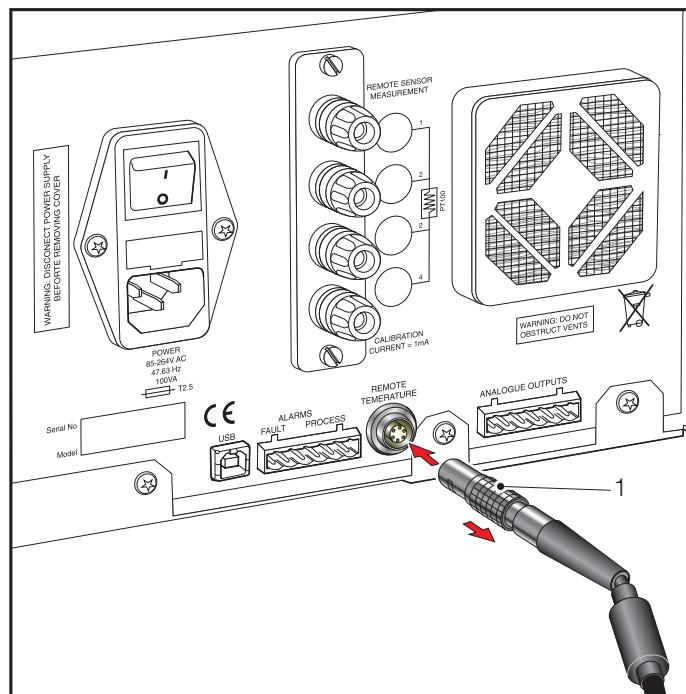

Figure 10      *Remote PRT Connection*
1. Rotate the body of the PRT probe connector until it locates in the socket labeled **REMOTE TEMPERATURE** (see *Figure 10*).
3. To remove the connector, slide the connector's body collar (1) back along its axis, away from the instrument to release the lock and then gently pull the connector body out of the socket. **Do not attempt to pull it out with the cable - make sure that the collar is first released.**